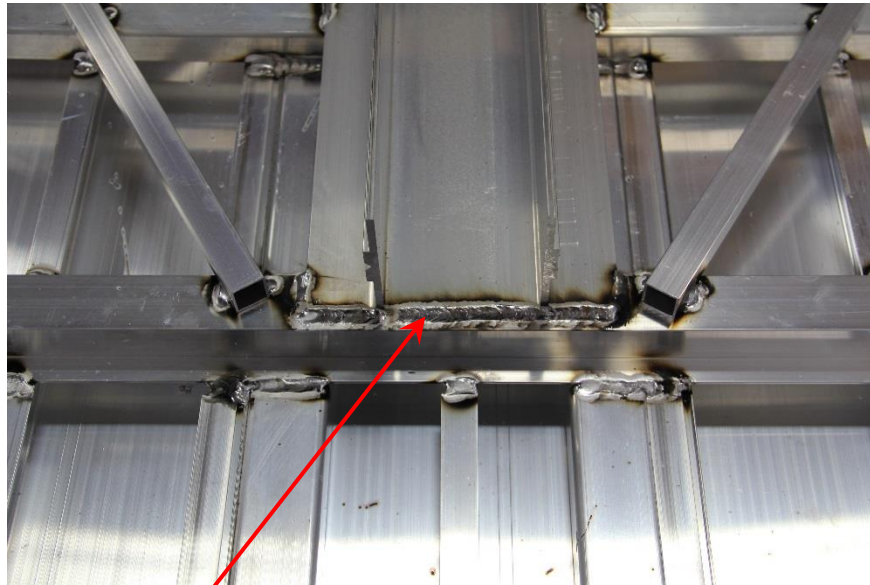

Figure 4
- 3.0 Figures 4 and 5 shows different orientation of tongue retainer. If welds are missing, then add .25" fillet welds as shown See Figure 4 and 5. **Note:** Ensure that wiring harness is not damaged during welding.